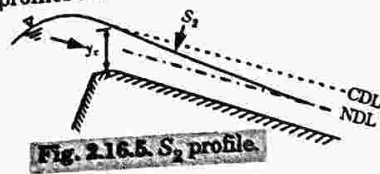

Fig. 2.16.5. S_2 profile.
- Profile of the S_2 type occur at the entrance region of a steep channel leading from a reservoir and at a break of grade from mild slopes to steep slope as shown in Fig. 2.16.5.